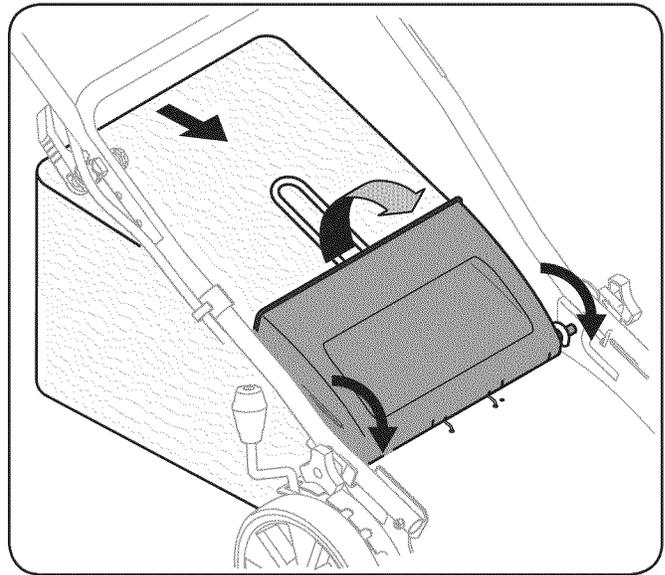

Figure 3-8
- c. Place grass catcher on the pivot rod. Let go of discharge door so that it rests on the grass catcher. See Fig. 3-8.